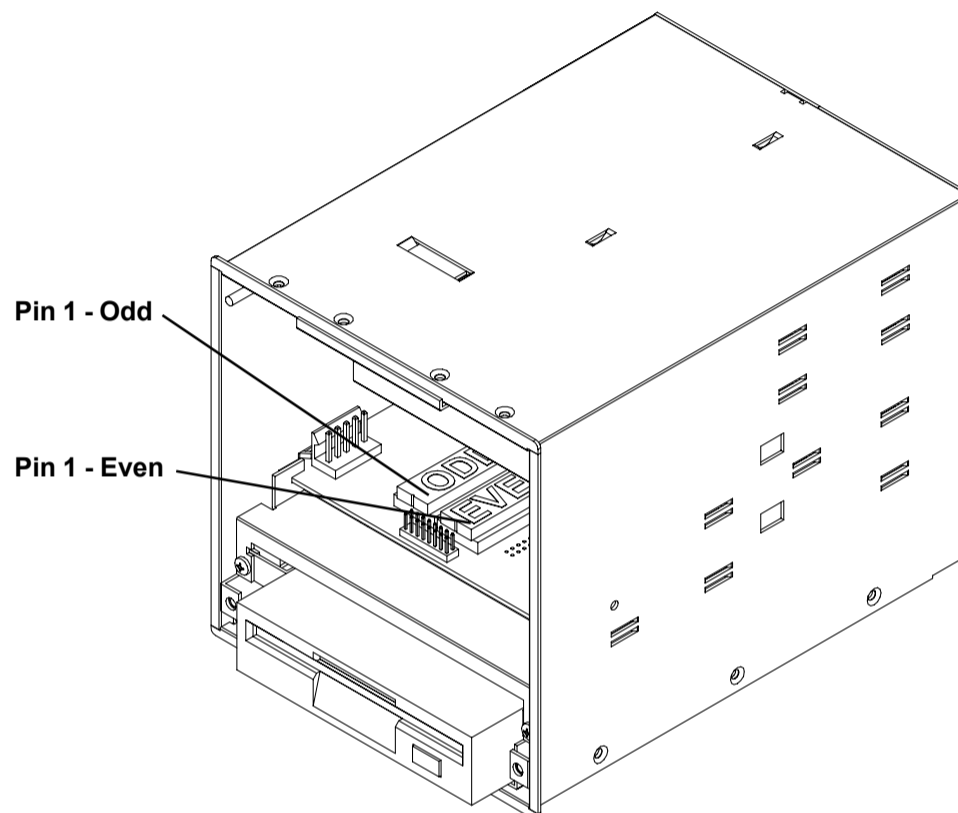

Figure 2 EPROM Installation
6. Insert the two new EPROM's making sure that the odd EPROM is to the left and that pin one is oriented correctly (see Figure 2). Ensure that all pins are properly seated in the socket before pressing home.